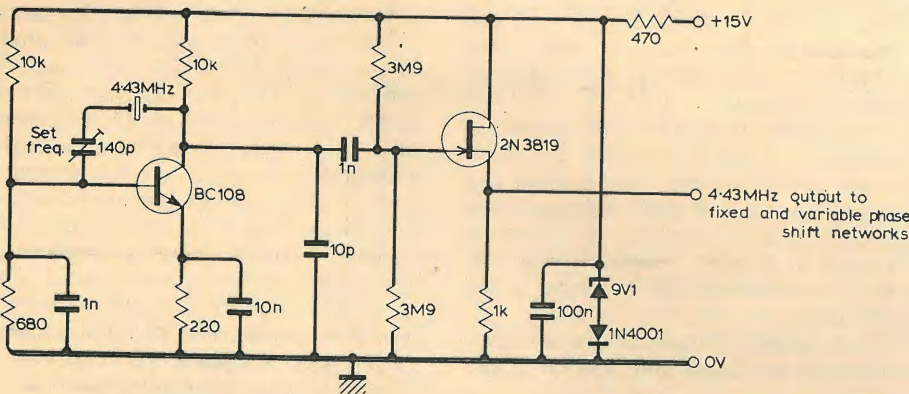

Fig. 4. Colour subcarrier generator circuit.
**Oscillator.** The subcarrier master oscillator is crystal-controlled and is designed around a standard colour subcarrier crystal used in domestic colour television receivers. In Fig. 4, the oscillator is of the Pierce type, with a source follower f.e.t. stage to minimize loading effects. The stage is fed from a stabilized power supply to improve stability. The phase of the output subcarrier from this unit is assigned the phase of -(B-Y), the -U axis, and used as the reference phase about which all others are considered.